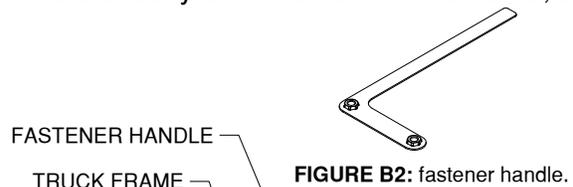
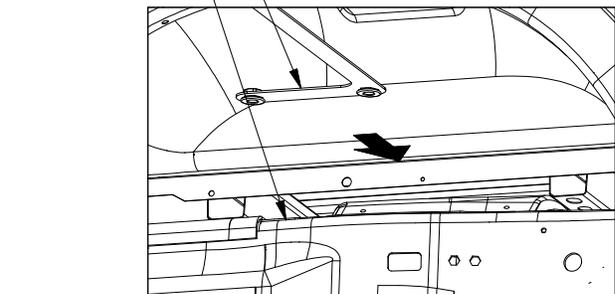
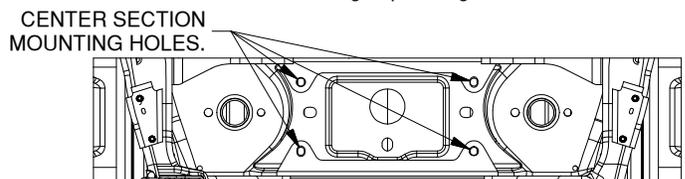

FIGURE B2: fastener handle.
FIGURE B3: Looking at passenger side wheel well.
FIGURE B4: Looking up at frame cross member under truck
2. **Install fastener handles:** Place the fastener handles, see Figure B2, between the frame cross member and the bed, see Figure B3. Use the handle to guide the welded nuts into place. Make sure that the two nuts are directly over the holes in the frame, see Figure B4.